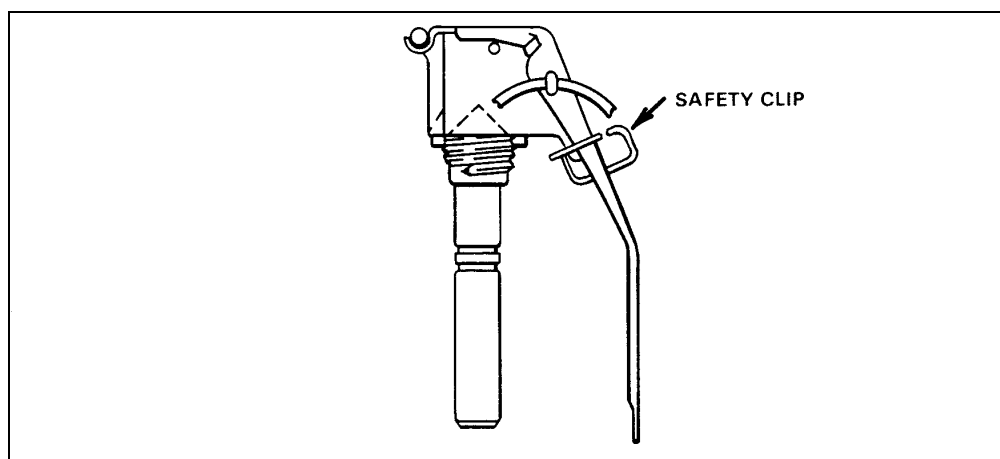

Figure 1-4. M228 fuze.
(2) *M228 fuze.* The M228 fuze (Figure 1-4) is used with the M69 practice grenade to replicate the fuze delay of the M67 fragmentation hand grenade. The time delay element is a powder train with a 4- to 5-second delay burn. In some cases, however, the delay element may vary from less than 4 seconds to more than 5 seconds due to defective fuzes.